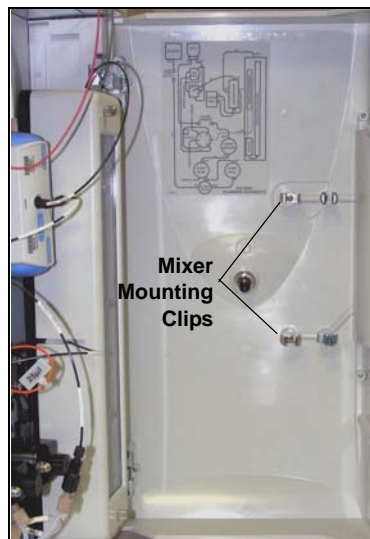

Figure 74. Location of Mounting Clips for the EGC CO₃ Mixer
2. Install the larger diameter clips (P/N 063642) (see Figure 74).